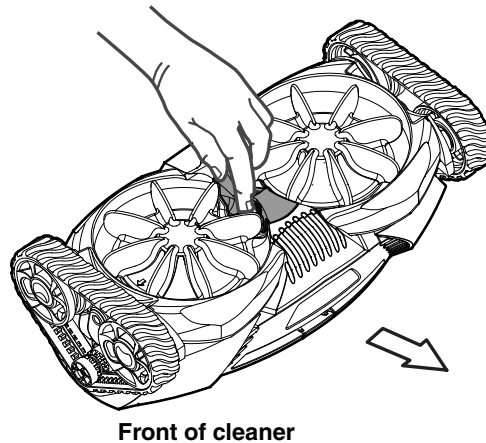
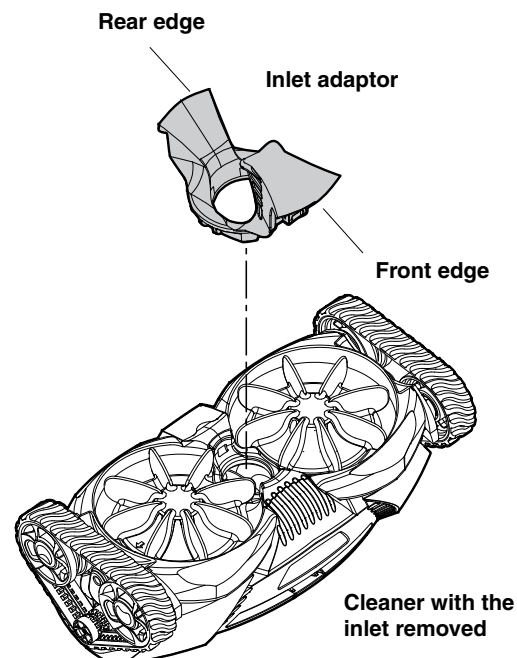

Figure 11
Figure 12
2. **Large debris cleaning mode:** (Figure 11) For vacuuming large debris, such as leaves. It is recommended that you return the cleaner to small debris factory setting after large debris cleaning is complete (Figure 12).